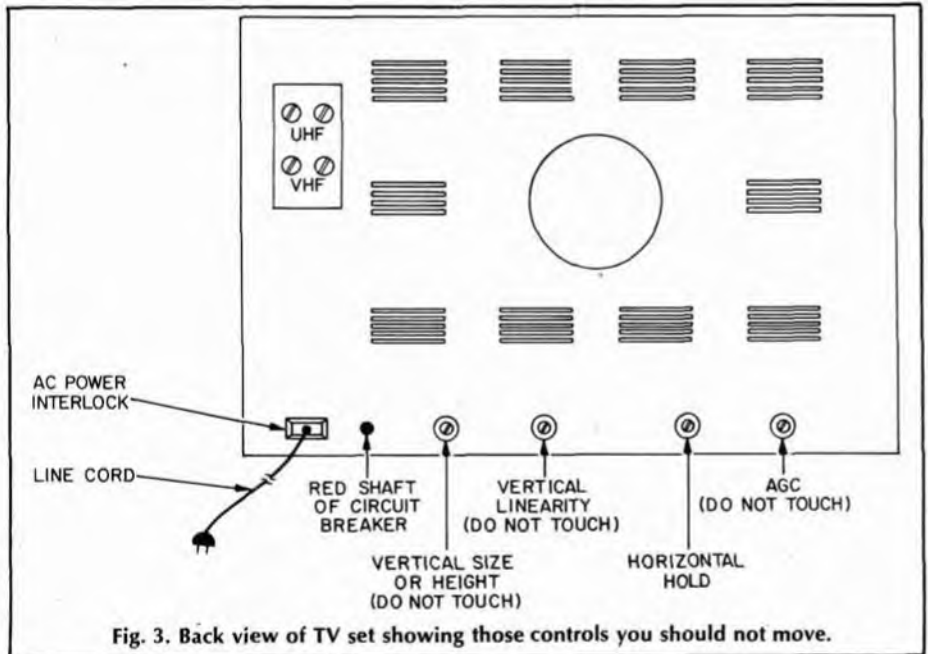

Fig. 3. Back view of TV set showing those controls you should not move.
**Scrambled Pictures.** If you can see that there is a good strong picture signal present, but it's what many people call "scrambled," you have a "sync problem." Every TV set has two controls to hold the picture in place, or "in synchronization" (and from now on it's "sync" for short). Strangely enough, we call these the "hold" controls. One holds the picture vertically, and the other horizontally. In the older sets, these controls will be at the bottom of the front panel; in portables, they may be on the side; and in some sets, on the back apron of the chassis (Fig. 3). They'll be marked "H(orizontal) Hold" or "V(ertical) Hold."